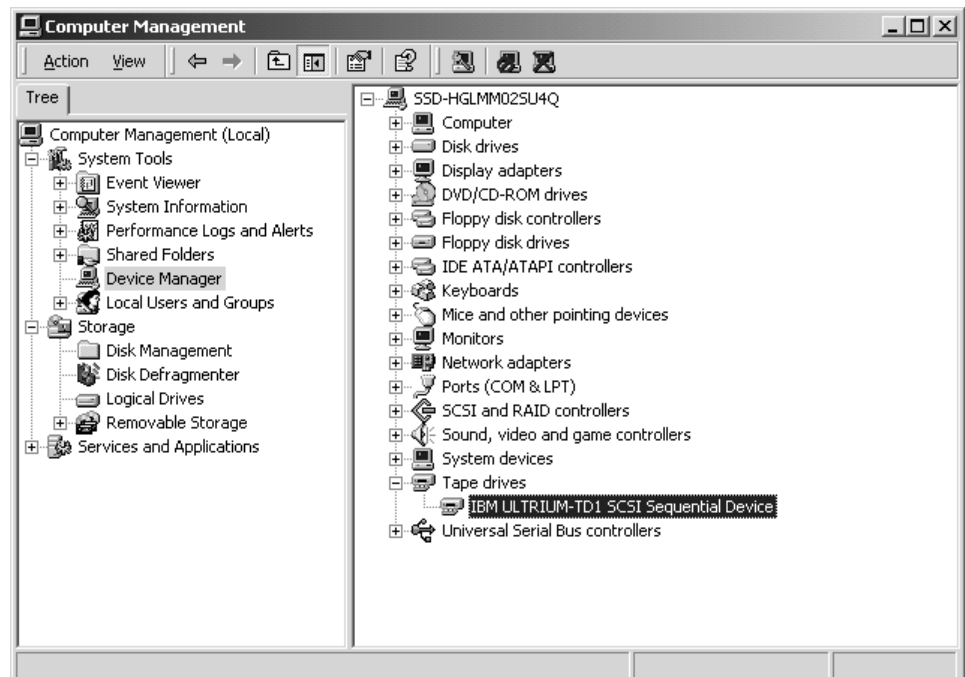

Figure 38. Drive and Changer Menu
17. Verify that the Ultrium devices are working properly when the device driver is enabled. The Ultrium devices should be listed under either **Tape drives** or **Medium changers**. See Figure 38.